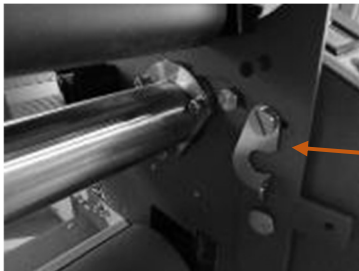

Fig.18a
1. A Feed Tray Safety latch rotates freely with the feed tray, Fig 18a.